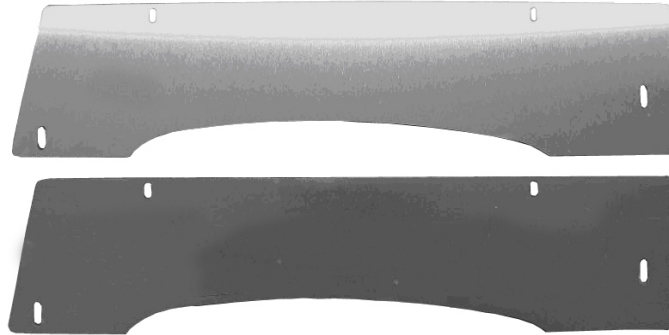

Figure 9
3. Locate the two flat, hold down brackets, shown in Figure 9.
2. Locate the two flat hold down brackets, shown in Figure 9.